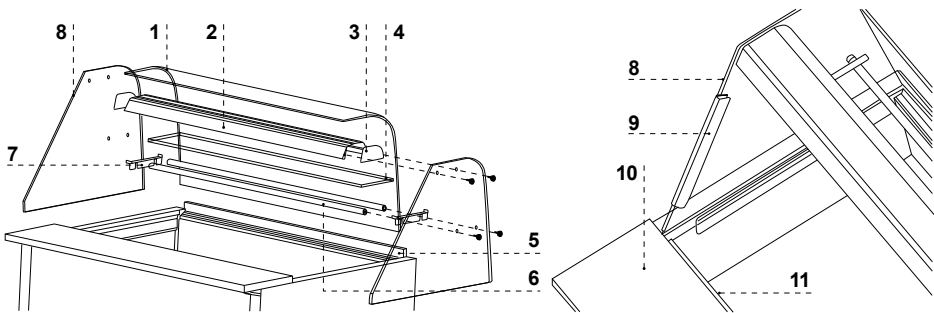

Fig.7 Assembly of glass elements and aluminium profiles
- I. Mount glass sides Fig.7/8 (p.11)
- II. Mount the aluminium lamp (together with lighting) on glass sides Fig.7/2 (p.11)
- III. Mount the front glass, basing it on the lamp and glass sides Fig.7/1 (p.11)
- IV. Mount aluminium profiles under the glass shelf (optional) Fig.7/6 (p.11)
- V. Mount the glass shelf Fig.7/4 (p.11)
- VI. Mount the casing of lamp conduit Fig.7/9 (p.11)